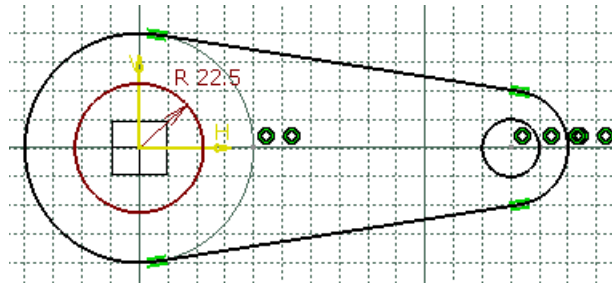

Figure 3-57 Final sketch after creating the outer and inner loops
- Draw the inner loops of the sketch using the **Circle** tool, refer to Figure 3-57.
5. Move the cursor horizontally toward the right and click when the coordinate values above the cursor are 140,0. The final sketch, after creating the outer and inner loops, is shown in Figure 3-57. Press the ESC key to exit the selection set and the **Circle** tool.